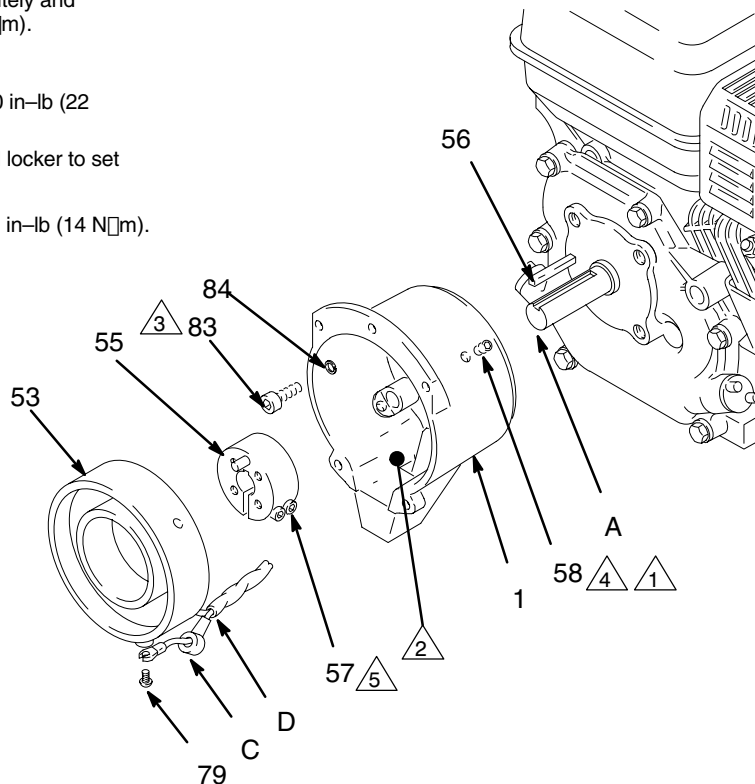

Fig. 21
1. Install the **clutch housing (1)**, capscrews (83) and lockwashers (84) on the engine. Use special alignment tool to position clutch housing on engine. Torque screws (83) to 200 in-lb (22 N.m).
2. Install the engine shaft **key (56)**. See Fig. 21.
4. Connect the wires of the harness (D) with the screws (79) in both places on the field (wires can be attached to either connection). Pull the plastic caps (C) up and snap them over the screws. Install the field in the clutch housing. Push the wire harness through the slot in the clutch housing. Align the setscrew holes in the field and the clutch housing (1). Hand tighten the setscrews (58) oppositely and evenly. See Fig. 21.
- 4 Apply low strength thread locker to set screws (58).